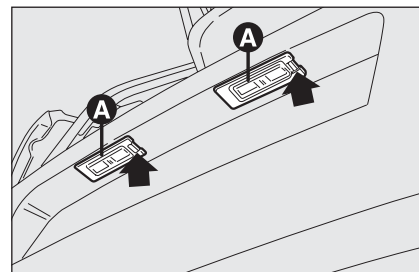

fig. 27
- work in the point shown by the arrow and remove lens **A**-fig. 27;